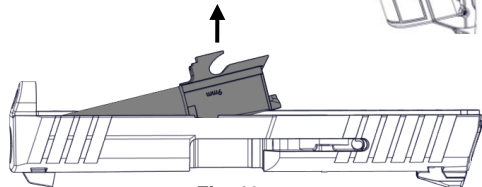

Fig. 19
6. Remove the barrel from the slide by pulling up on the barrel lug (Fig. 19).